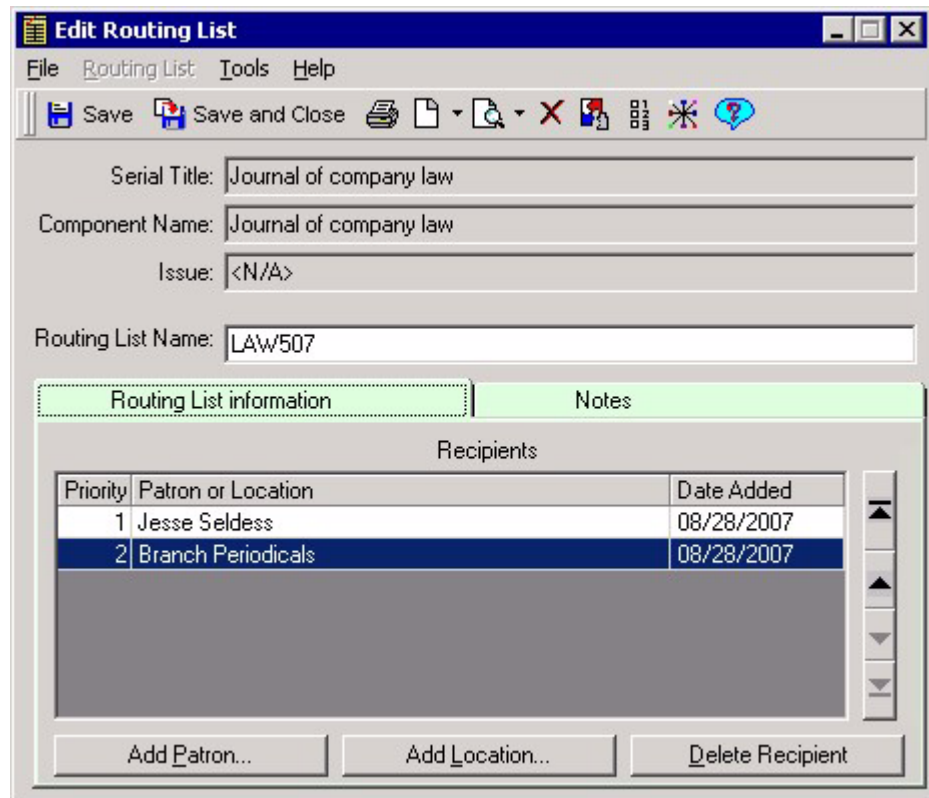

Figure 8-25. Edit Routing List dialog box
1. On the **Routing Lists** tab, select the routing list that you want to delete and click the **Edit** button. The **Edit Routing List** dialog box opens (see Figure 8-25).